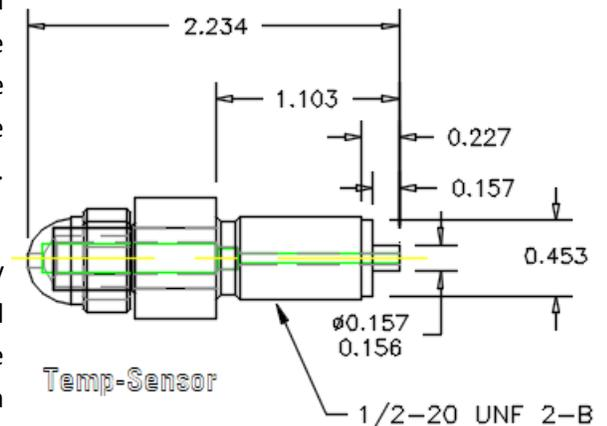
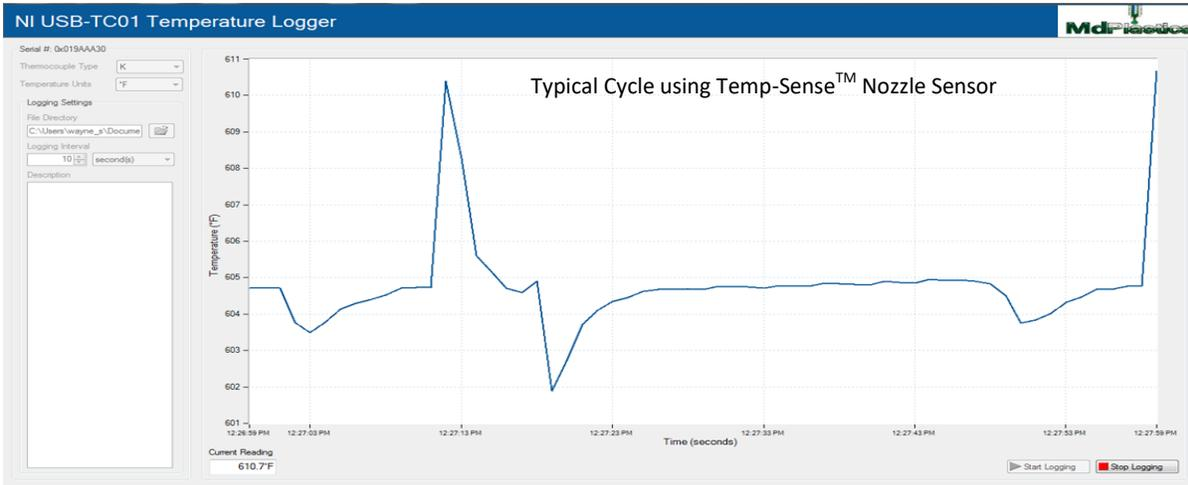

Fig. 1 (Nozzle Sensor)
Fig. 2
The Temp-Sense™ Melt sensor Fig. 1 takes the applied pressure (P) by the melt and measures the work applied to the polymer. The actual thermocouple meter readout displayed in our TC01 DAQ unit shows the thermal energy being imparted to the polymer instantaneously for a unique "LOOK" Fig. 2, into the barrel.
- I. One Single unit USB DAQ I with USB connector (a) One Temp-Sense™ Melt Sensor (shown in fig. 1).